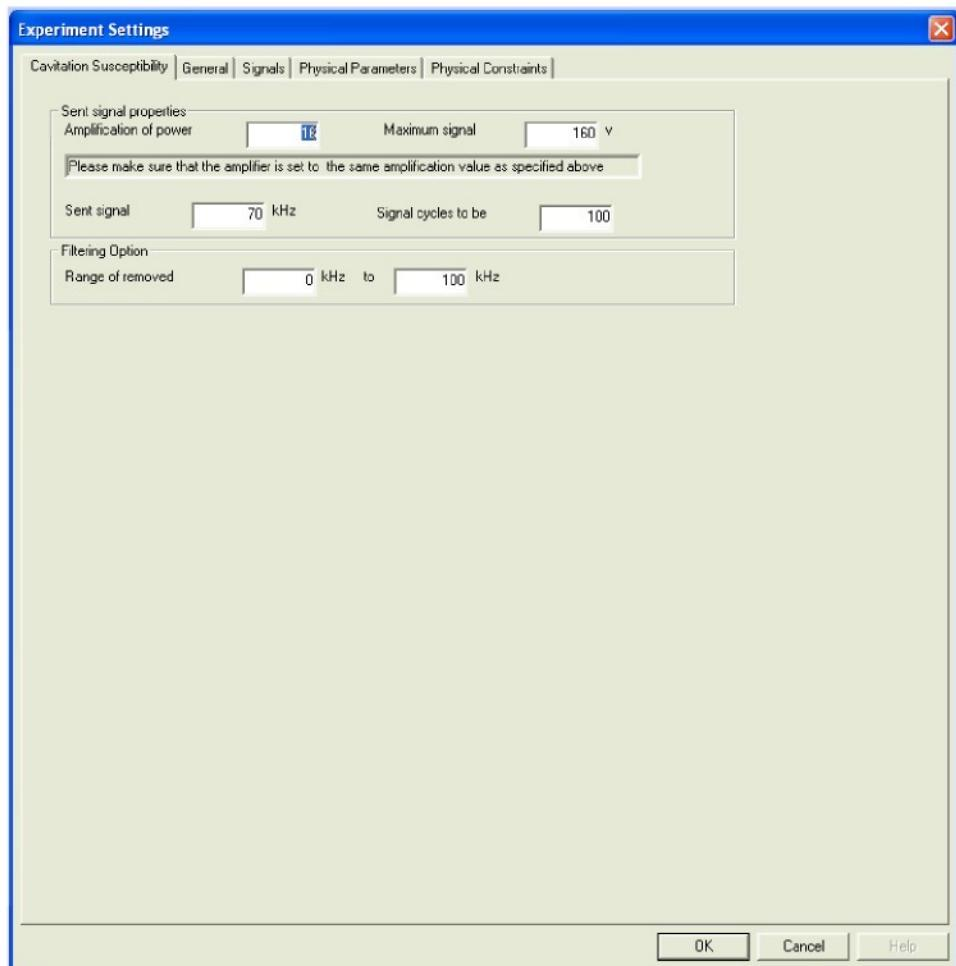

Figure 9. Experimental Settings: Cavitation Susceptibility Page.
This button invokes the Experiment Settings property sheet that enables the user to input the various environmental and operating conditions for the experiment. The property sheet can also be invoked from the menu by clicking **Experiment / Settings** or by pressing the **F7** key. There are four separate property pages as described below and shown in Figure 5 through Figure 9.
- **Cavitation Susceptibility:** This page (Figure 9) provides information for the system to measure the cavitation susceptibility.